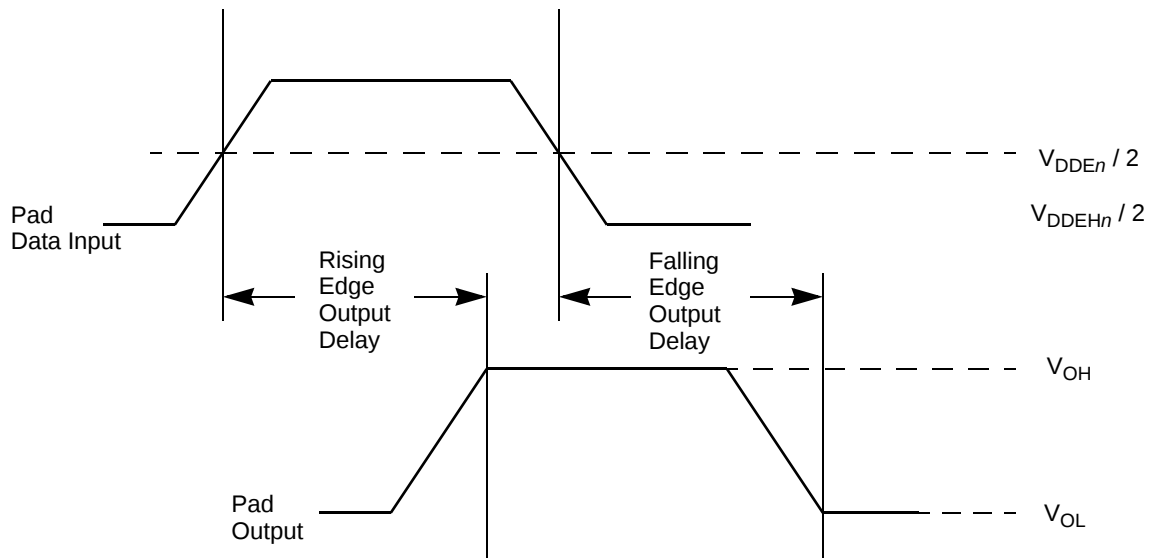

Figure 7. Pad Output Delay
- ⁵ Out delay is shown in Figure 7. Add a maximum of one system clock to the output delay for delay with respect to system clock.